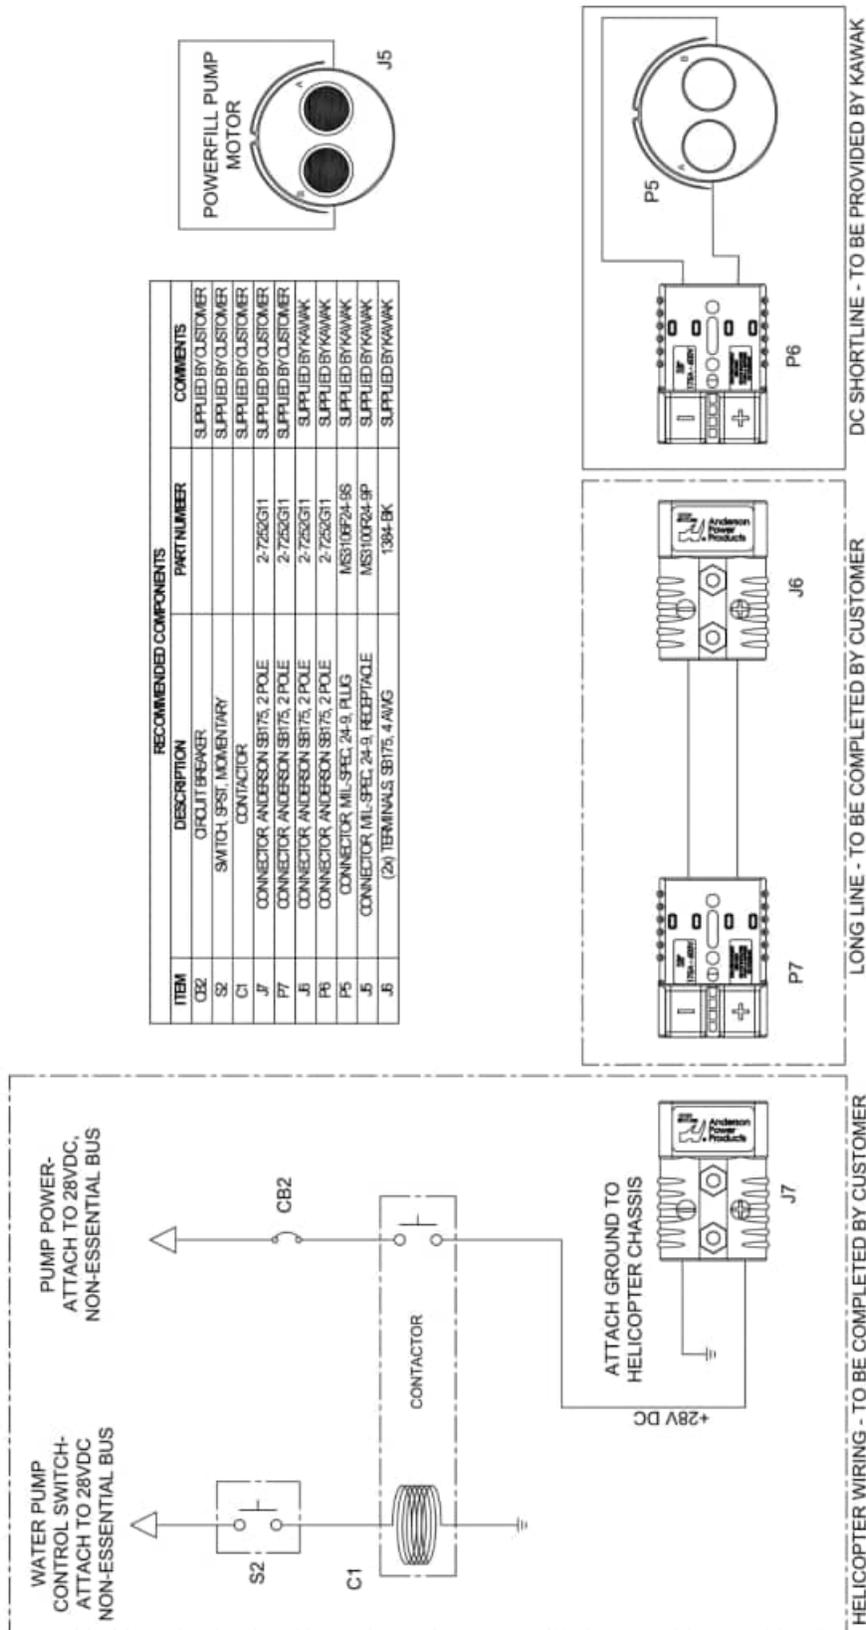

Figure 25: Wiring Schematic for 28VDC Bucket Refill Pump
The 28VDC bucket refill pump requires 80A – 150A depending on desired performance and other variables. This DC pump motor’s current can be internally limited to 80A, 100A, 120A or 150A. The higher the current limit is set, the greater the fill rate will be. However, the wire gauge will also have to be increased as the current limit and long line length are increased. Table 4 below shows pump performance at different current settings and long line lengths. Refer to Figure 25 below for a schematic of a typical bucket refill pump installation. It is the responsibility of the operator to complete the wiring between the connector on the belly of the aircraft (J7) and a suitable DC power source.
2. While one crew member closes the cockpit switch to power the refill pump circuit, the second person is needed to confirm correct polarity at the disconnected Anderson connector. Consult Figure 25. Polarity should match the (+) & (-) markings on the Anderson Connector.